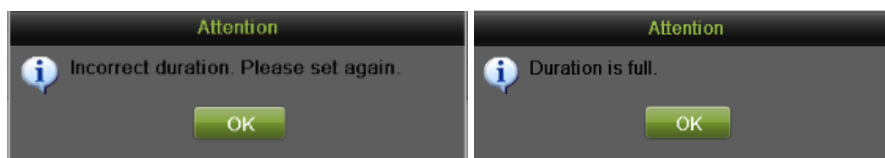

Figure 77 Schedule Configuration Error Messages
- 5) If there are scheduling errors detected, error messages such as those shown in **Figure 77** will appear.